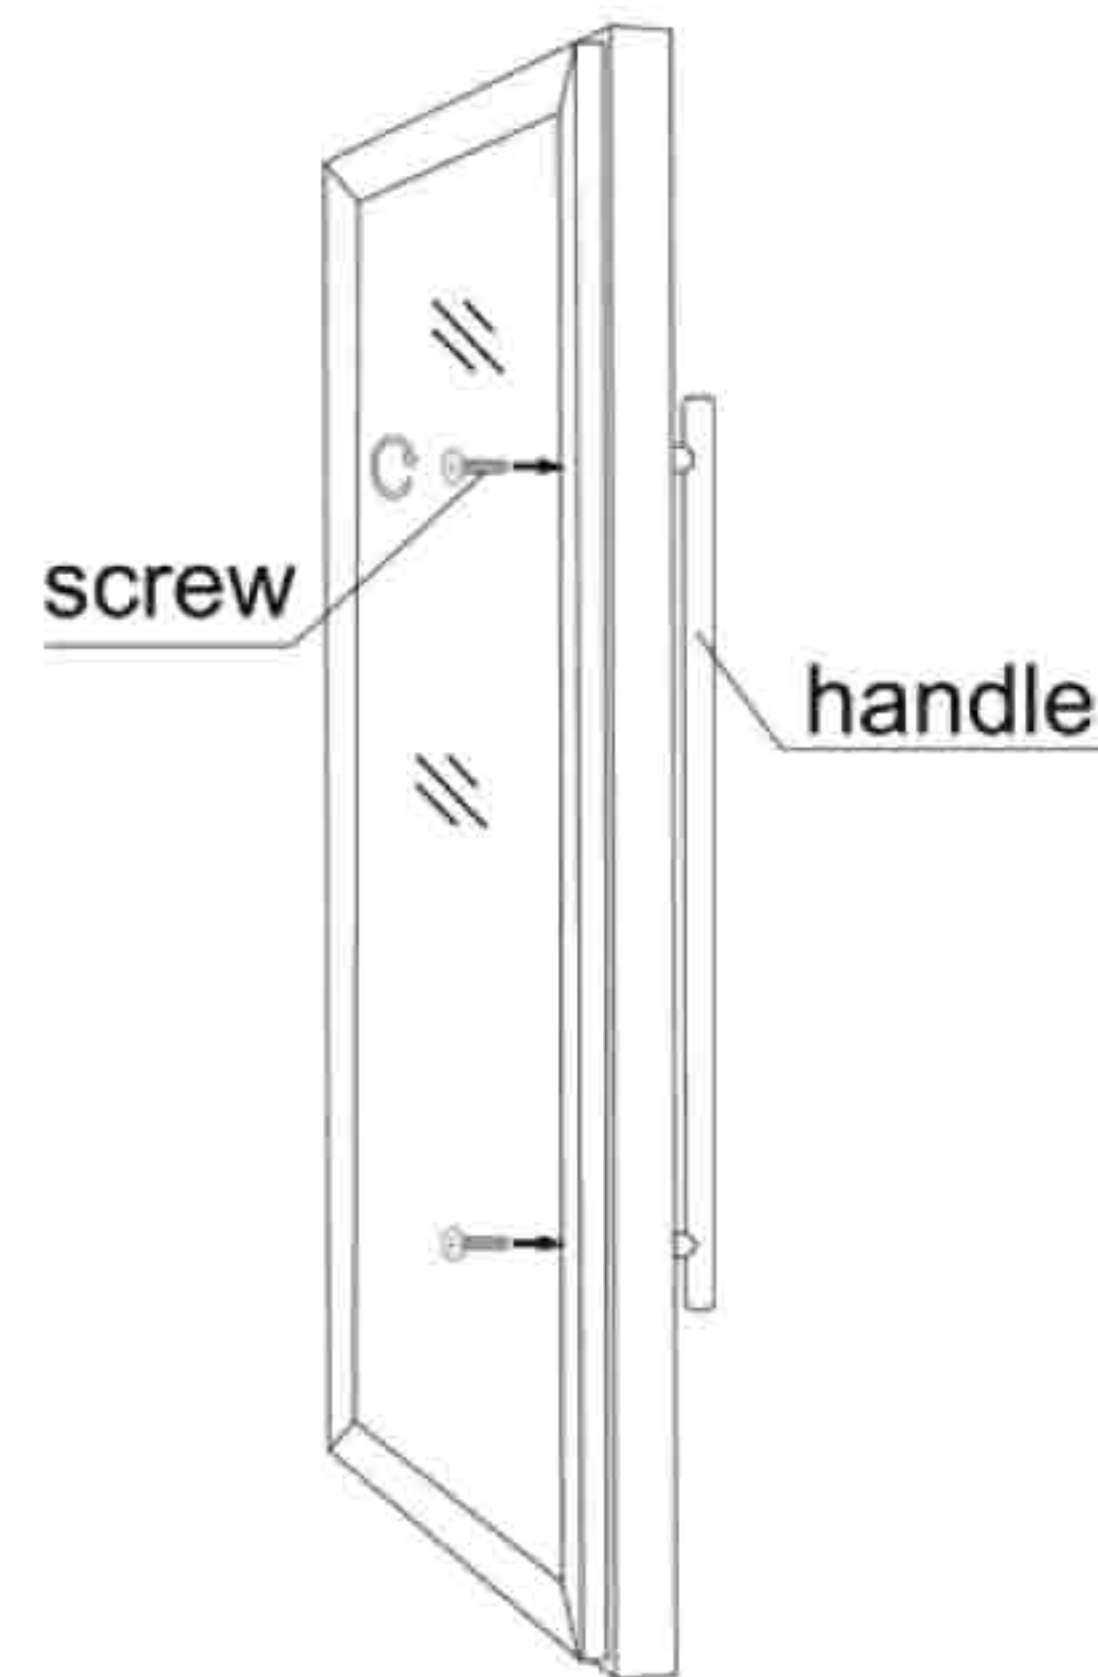

Figure 5
2. Tighten screws from back to fix it. (See figure 5)